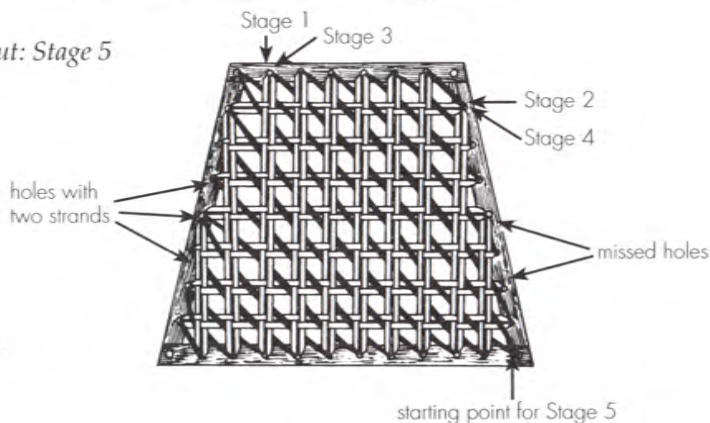
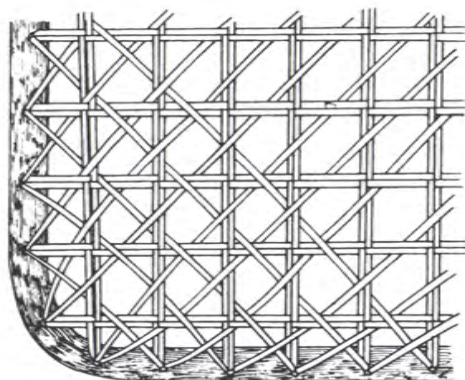

fig. 6
fig. 7
As you face the chair, start this stage by pegging a piece of cane into the right front corner hole. Leave a three-inch end below the seat. See Figure 6.
square the cane will probably not come out at the back left corner hole. It should be threaded down whichever hole it reaches after forming a true diagonal. The hole will be on the left side rail or the back rail. See Figure 6.
19. Up until this stage all of the other holes have two strands of cane in them. On this stage and stage 6, you must work out your diagonals so that you get two strands of cane in each corner hole. It is important not to miss any holes in the front or back rails. If you have to make adjustments, they should be done on the side rails. On the standard type of dining room chair, there are usually two holes that are missed on one side and two holes with two strands of cane in them on the other side. See Figure 6. If you are working a chair with rounded corners you may have to put more than one pair of canes into the corner holes, see Figure 7.
20. Finish the first half of the chair. The final strands of cane will go across the corners if you have worked the pattern correctly. Start in the center again and work the other half of the seat. Refer to Figure 6.